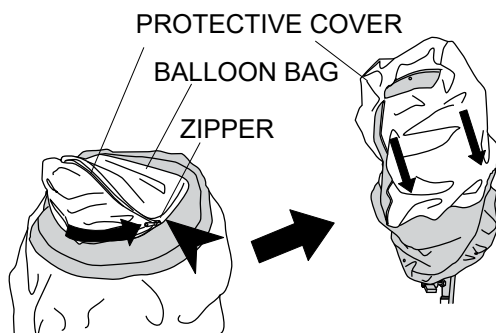

Figure 34. Unzipping Balloon Cover
2. Unzip the zipper on the balloon bag and roll down the protective cover onto the balloon cloth (Figure 34).